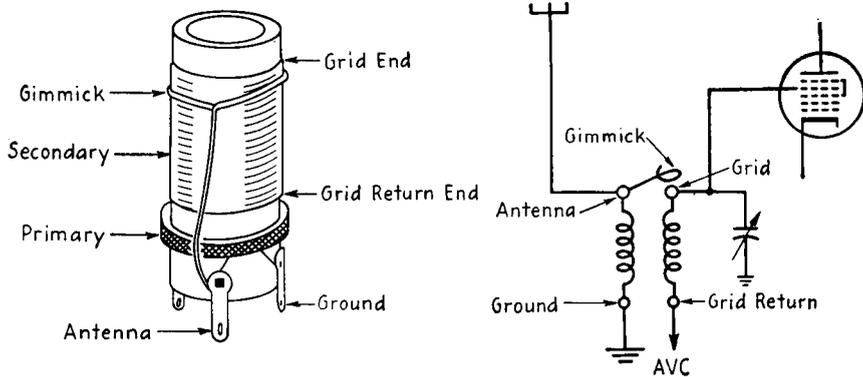

FIG. 14-12. Antenna coil leads.
**How to identify antenna transformer leads.** For the identification of antenna transformer leads, see Fig. 14-12 and the following notes.